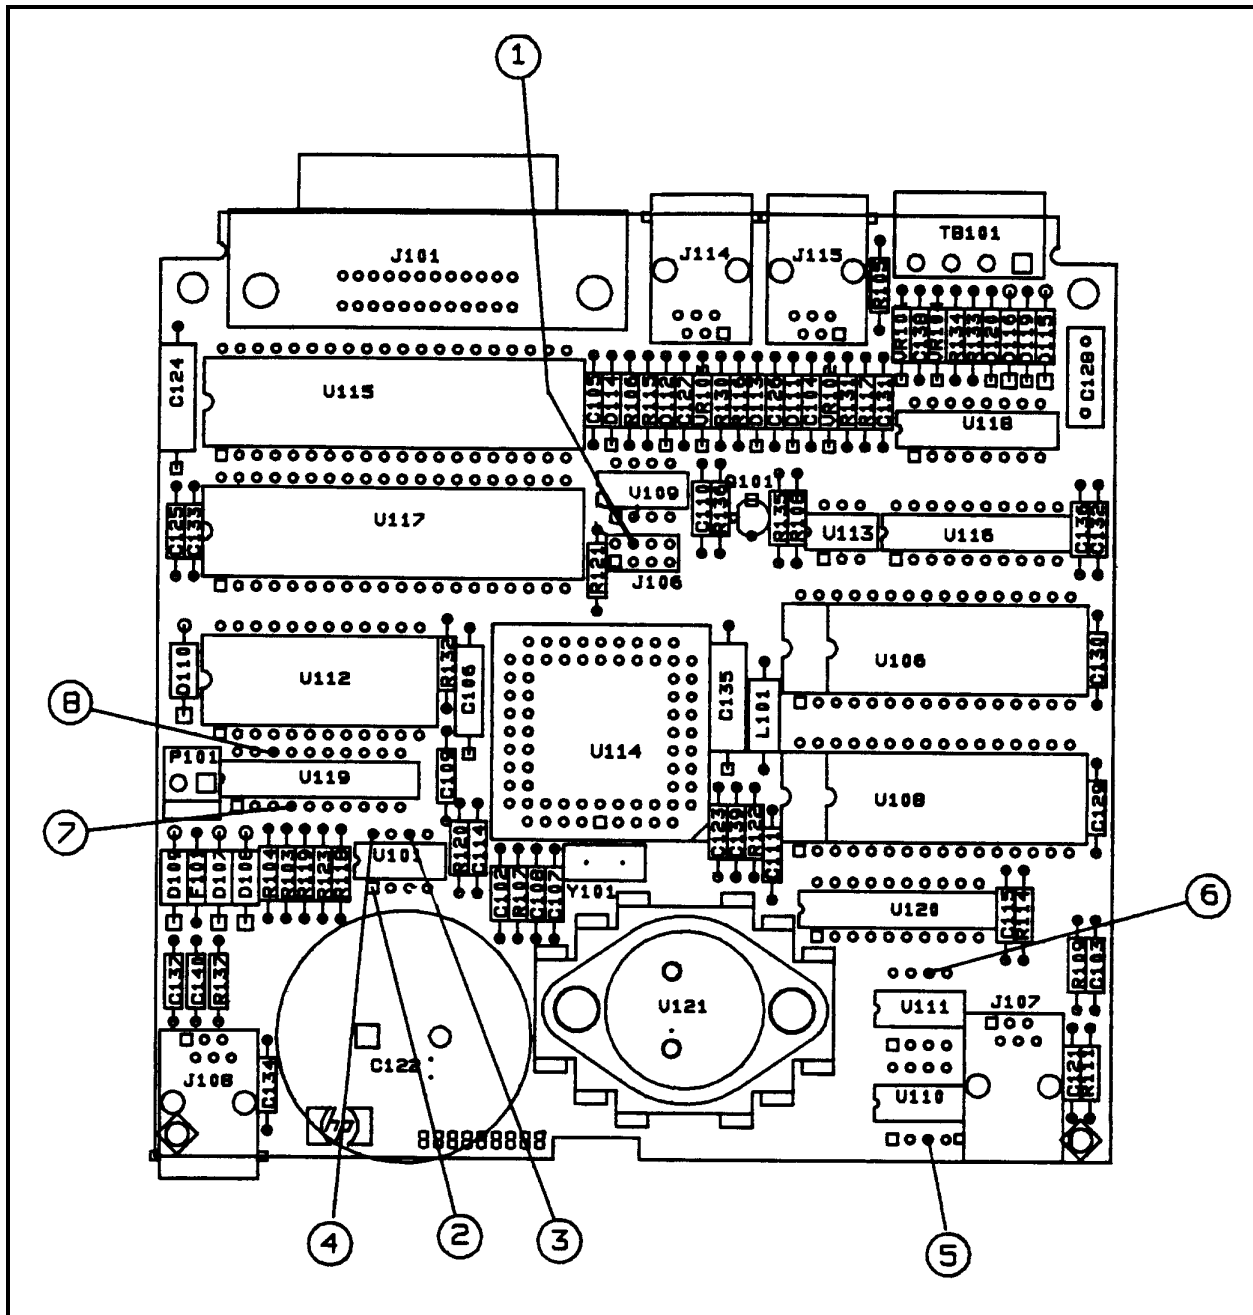

Figure A-1. A2 GPIB Component Parts List
**REPLACE:** A2 GPIB Board Component Location diagram in Section 6 of this manual with the A2 GPIB Board Component Location Diagram shown in Figure A-1 at the end of this appendix.